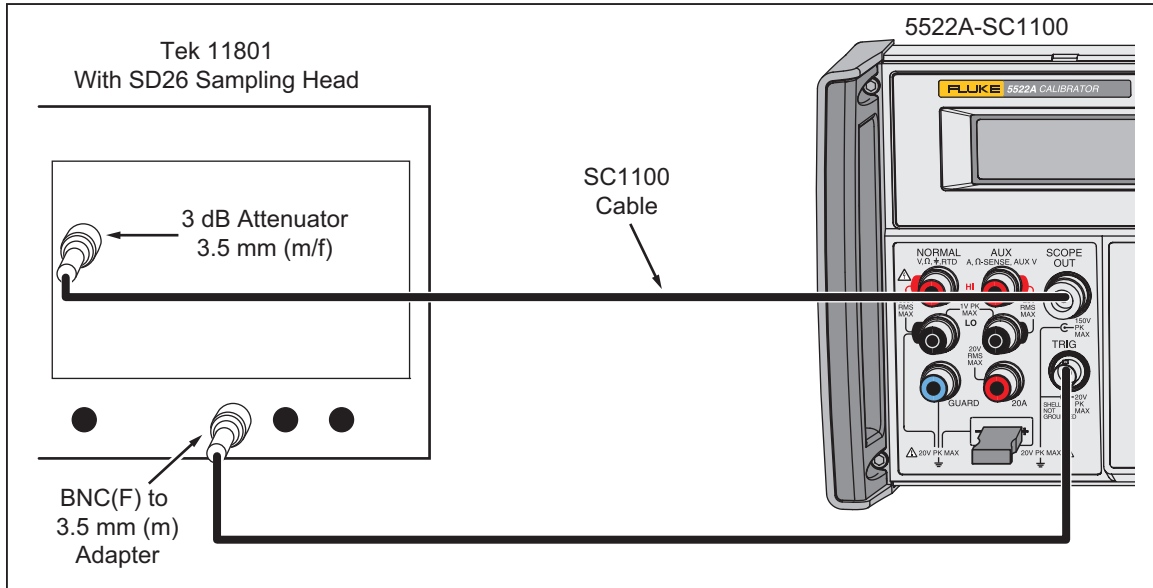

Figure 7-8. Edge Rise Time Verification Setup
2. Use the second BNC cable with the BNC(f) to 3.5 mm (m) adapter attached to connect the TRIG OUT of the Calibrator to the trigger input of the DSO. See Figure 7-8.
3. Connect the Calibrator to the oscilloscope as shown in Figure 7-8.